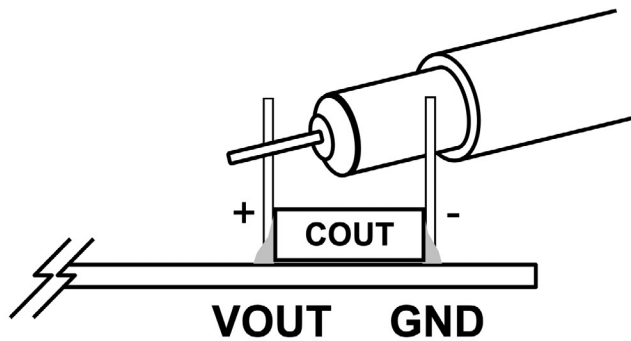

Figure 3. Measuring Output Voltage Ripple
2. When measuring the output or input voltage ripple, do not use the long ground lead on the oscilloscope probe. See Figure 3 for the proper scope probe technique. Short, stiff leads need to be soldered to the (+) and (–) terminals of an output capacitor. The probe's ground ring needs to touch the (–) lead and the probe tip needs to touch the (+) lead.